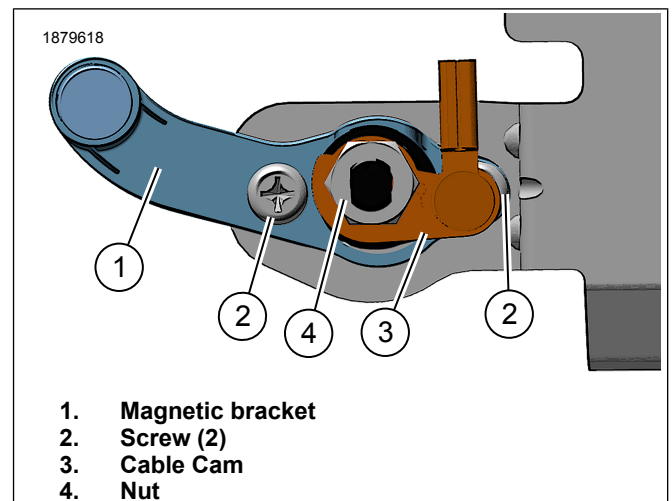

Figure 5. Magnetic Bracket Assembly
6. Figure 5 Install magnetic bracket.